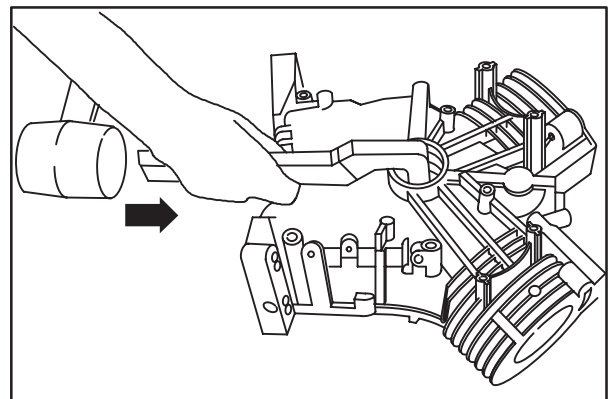

Fig. 13
6. Use Roll Pin Driver #19344 to install new roll pin, Fig. 13. Drive in new roll pin until tool bottoms.